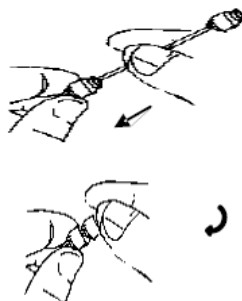

Figure 1
- 3) Secure the male luer valve of the stiffener to the female luer valve of the catheter (Figure 1).